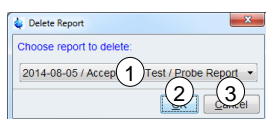

Figure 5-28: Delete Report – choose report
## Delete Report Dialog (Figure 5-28)
- (1) In the dialog (Figure 5-28) select the report (1) to delete.
- (2) Click **OK** (2) to continue to delete the report.
- (3) Click **Cancel** (3) to abort deleting a report.